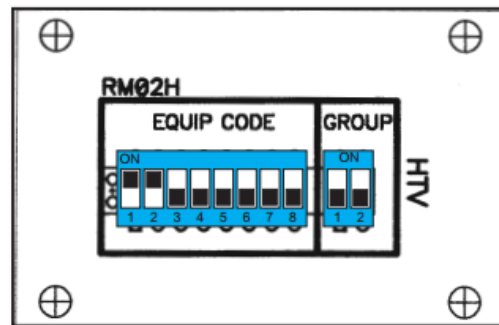

Figure 18 – EQUIP CODE CONTROL
2. Configure the *EQUIP CODE* (*Figure 18 – EQUIP CODE*) so that the combination of the switches matches that of the corresponding NICO equipment (see previous section: *CONFIGURATION OF THE NICO AUTOMATIC TWISTLOCK*).